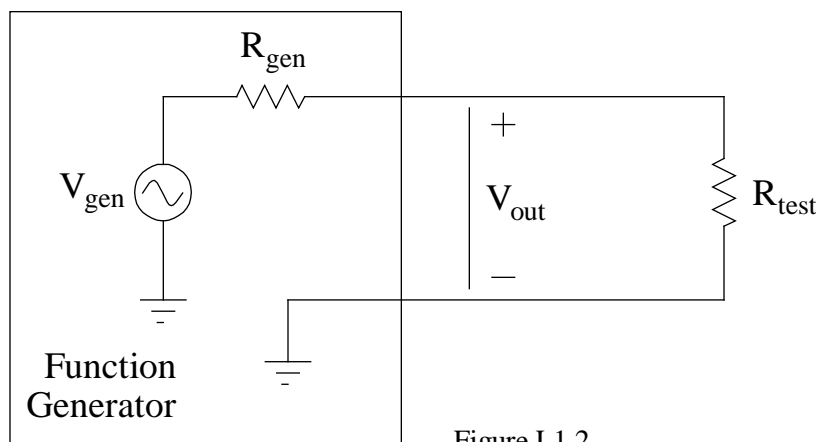

Figure L1.2
Measure the low frequency output impedance of the function generator. Do this by hooking the output of the generator to a test resistor R_{test} of value from 50Ω to 100Ω to ground, as shown in Fig. L1.2.
In this configuration, the voltage V_{out} indicated in Fig. L1.2 takes the form
- Choose a test resistor R_{test} with value between 50Ω and 100Ω and hook up the circuit shown in Fig. L1.2. Set the function generator to output a sinusoidal waveform with a reasonable choice of amplitude (e.g., 1V) and a frequency of 10kHz or lower. Measure the value of V_{out} using your oscilloscope (with a properly compensated probe).